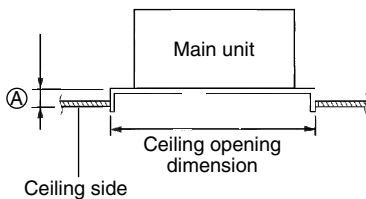

Fig. 9-1
- Never place the panel face-down. Either hang it vertically or place it on top of a projecting object. Placing it face-down will damage the surface. (Fig. 9-1)